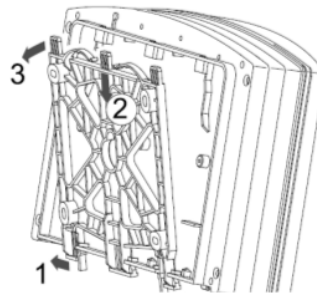

Figure 7A Removing the wall Bracket
1. Remove the wall bracket from the housing (Fig. 7A)
2. Press the two snap hooks (1) outwards
3. Push the wall bracket downwards (2) to clear the housing and tilt it out (3)